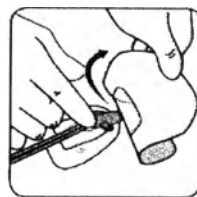

Figure 6
4. When the catheter hub is exposed, move your gloved finger to secure the catheter hub and continue to remove the dressing until device is uncovered. Leave remainder of dressing in place over catheter insertion site. **Figure 6**